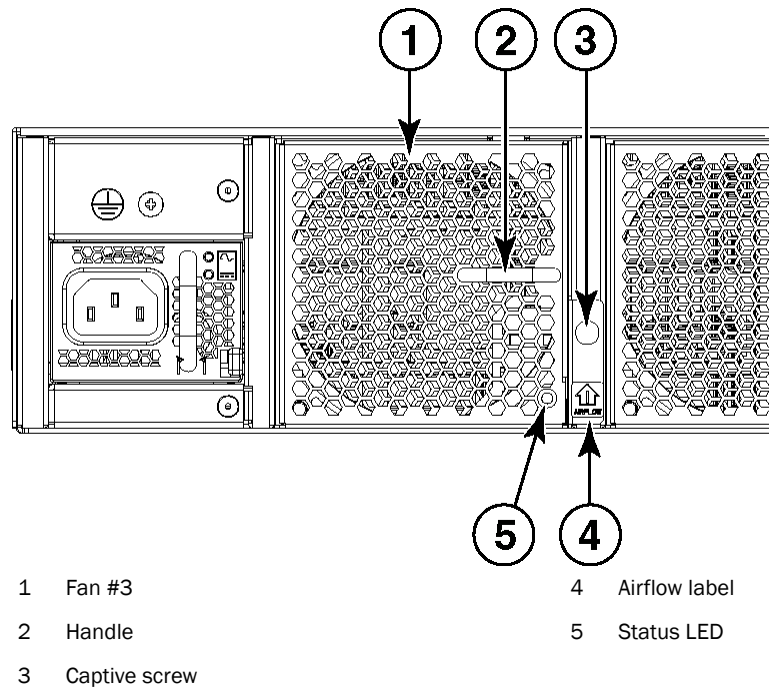

FIGURE 11 Brocade 6520 fan
- A new fan that has the same part number and airflow indicator as the fan being replaced. Refer to Figure 11 for the location of the airflow label
- b. Orient the new fan with the captive screw on the right, as shown in Figure 11.